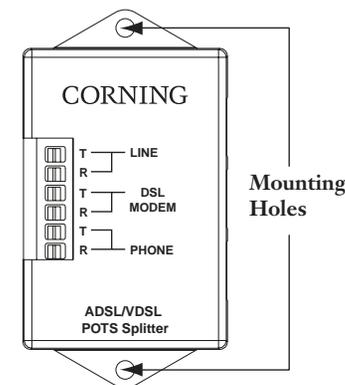

Figure 4 — Mounting Hole Locations
This unit can be mounted to an interior wall, desk, or outlet using the mounting holes provided (Figure 4).
Step 2 Secure the splitter through the mounting holes (Figure 4) using screws appropriate for the mounting surface.